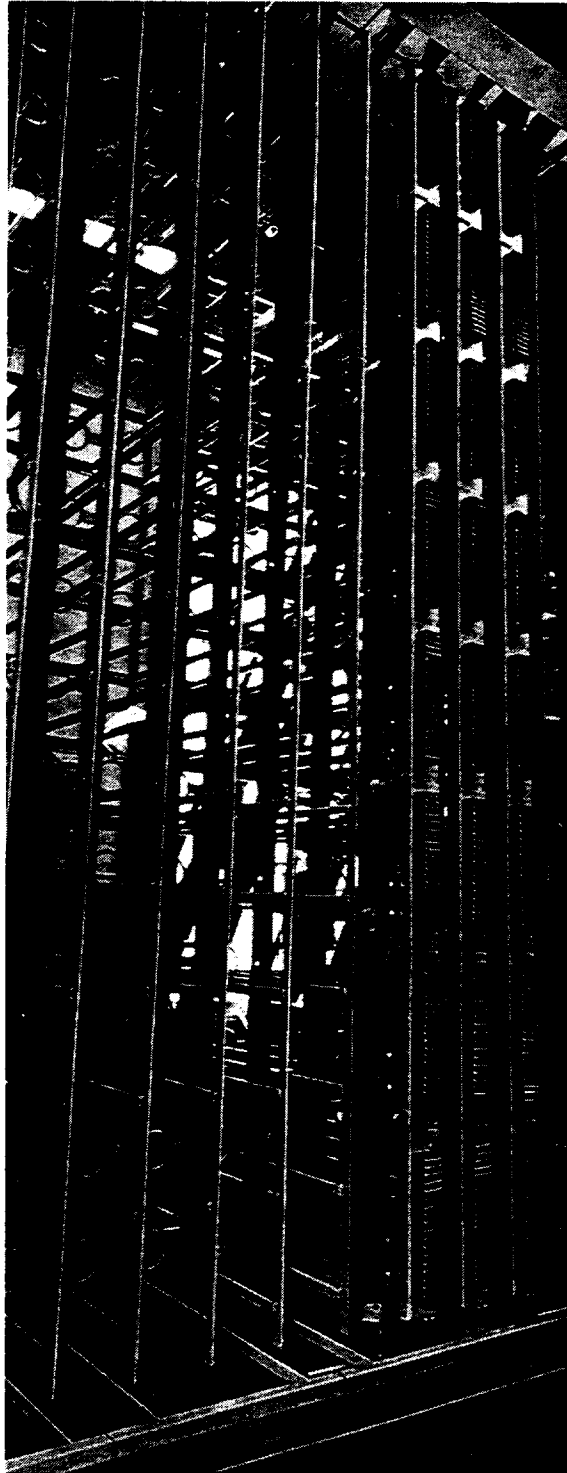

Figure 5—303-Type Connector Installed on Main Distributing Frame
- (1) The connectors are mounted in the same way as described in paragraph 3.09, (2) through (8), except that the stub cables are routed to the top of the frame.
3.11 Figure 5 illustrates a main frame with twenty-four 303-type connectors installed, thus providing for the termination of 2400 cable pairs. The